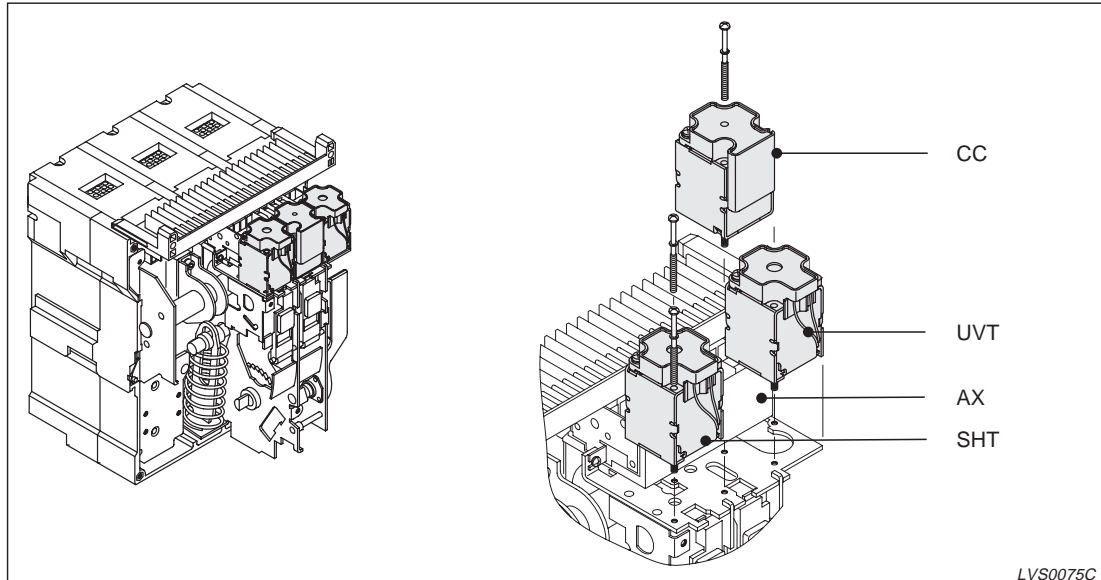

Fig. 4-3: Removal of SHT, CC and UVT
- ① Remove the two M4 mounting screws as shown in fig. 4-3.
- ② Pull out the faston terminals of the CC from the terminals CC+ (A1) and CC- (A2) of the control circuit connector.
- ② Pull out the faston terminals of the UVT from the terminals U+ (J1) and U- (J2) of the control circuit connector.